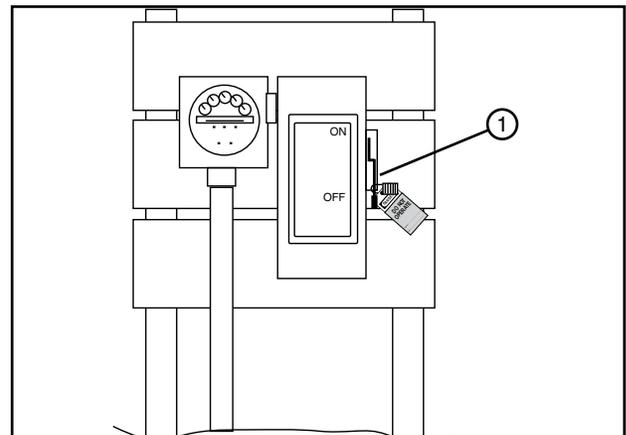

Figure 33-2 1. Public Power Service Disconnect
2. Turn OFF and lock the electrical service disconnect at each tow location. See Figure 33-2.